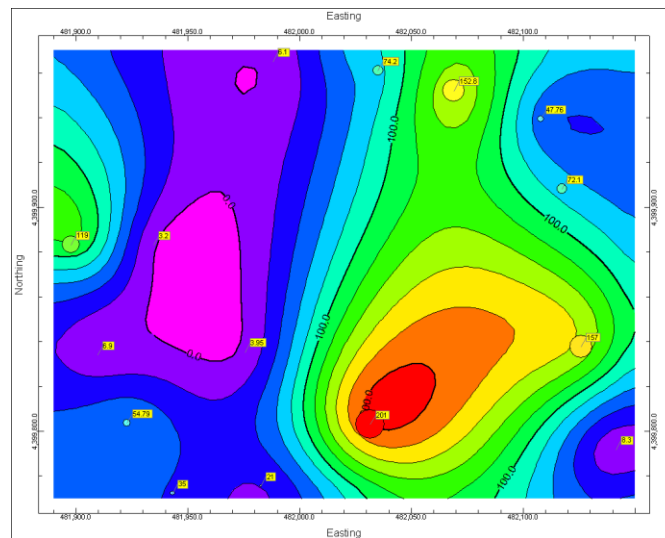

Figure 38
- Click the Continue button and a contour map (Figure 38) will be displayed within a new tab as well as a PDF file that will be displayed within your default web browser.